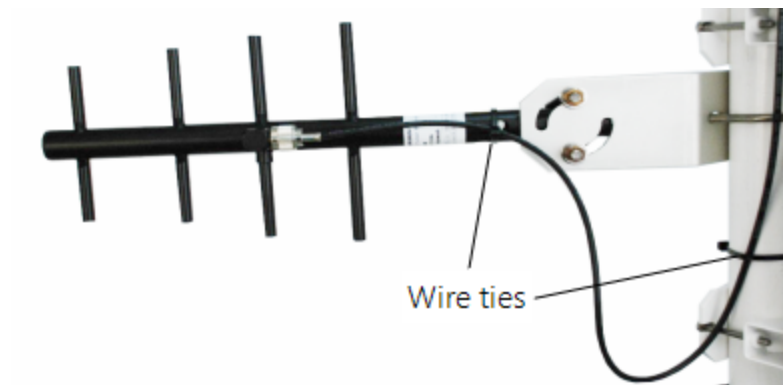

FIGURE 6-34. Wire tie antenna cable to Yagi antenna and to pole
- h. Take one black wire tie and strap the antenna cable to the antenna (FIGURE 6-34 (p. 50)). Leave a little slack on the cable between the wire tie and the antenna connector so as not to stress the connector/cable connection.
- i. Make sure a loop of antenna cable is directly under the Yagi antenna. This will act as a drip loop and allow moisture to run off the antenna and cable (FIGURE 6-34 (p. 50)).